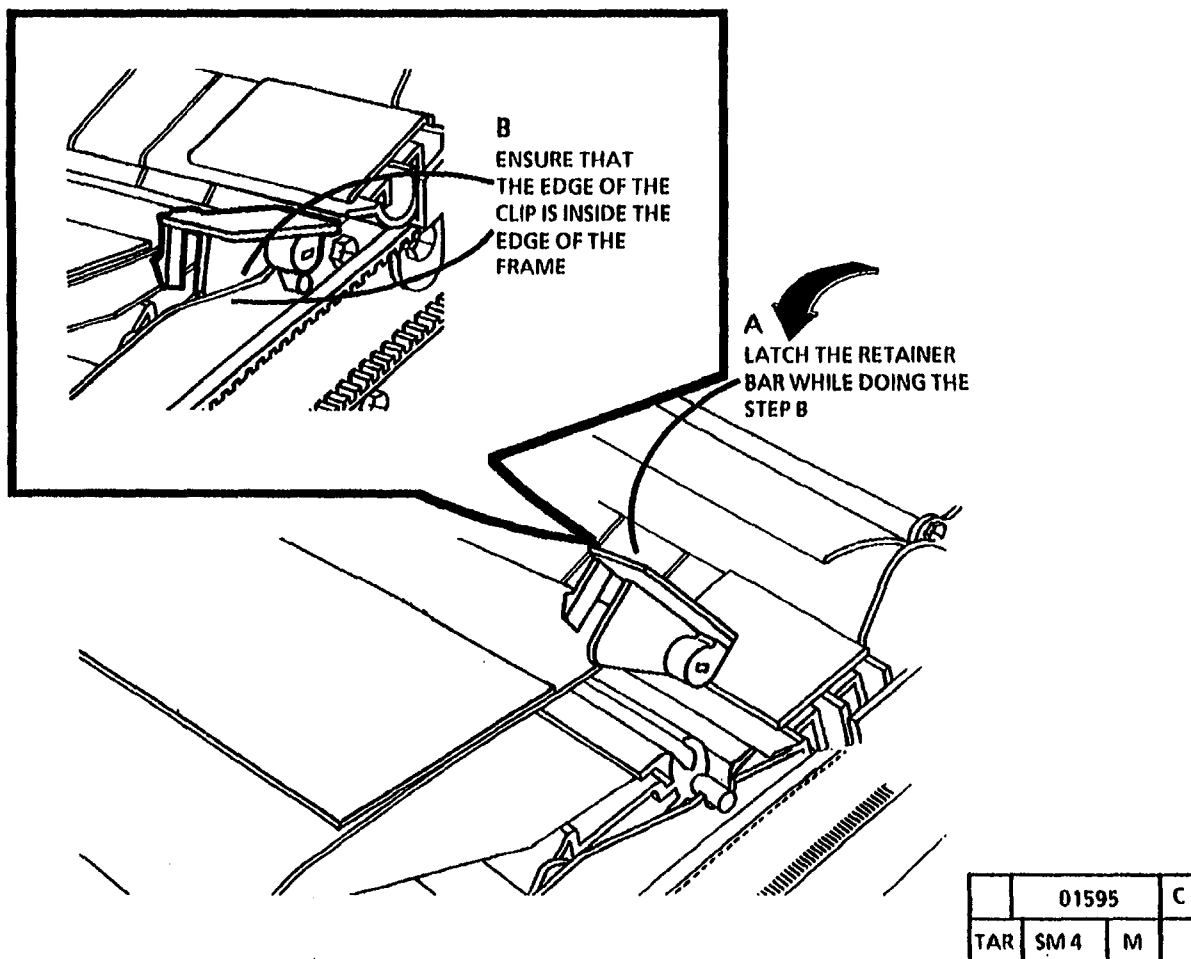

Figure 7. Reinstall the Fabric Guide
4. (Figure 7): Reinstall the Fabric Guide.